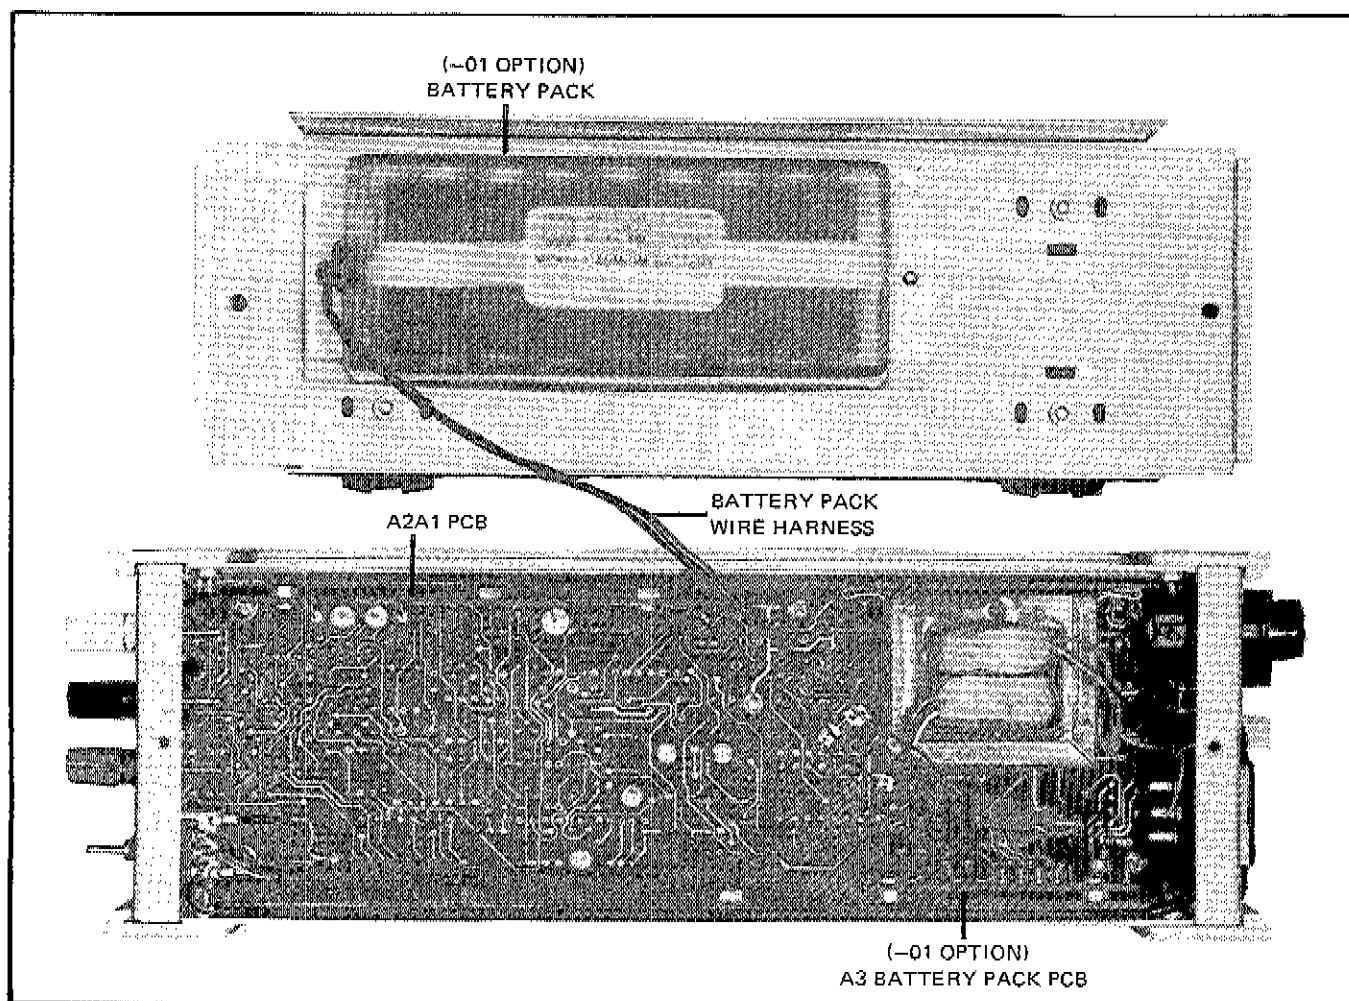

Figure 4-2. ASSEMBLY LOCATIONS (BOTTOM COVER REMOVED)
- b. Remove the bottom dust cover. Access is now provided to assemblies shown in Figure 4-2.
- a. Locate the assembly to be removed using Figure 4-2.
4-19. The batteries for the -01 Option are installed on the inside of the bottom dust cover as shown in Figure 4-2. If replacement is necessary, the entire Battery Pack, FLUKE PART NO. 284356, should be replaced. Proceed as follows:
- Disconnect the four wires labeled 1 through 4 from A3 Battery Pack PCB. Refer to Figure 4-2 for location.